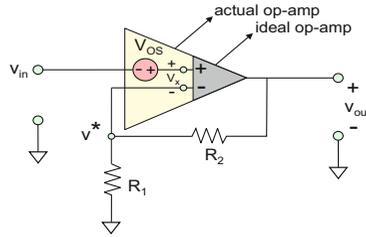

Fig. 5.24. Circuit for the non-inverting amplifier with an input offset voltage.
The input offset voltage results in a nonzero output voltage when the two input terminals of the amplifier are shorted out. It arises due to a small asymmetry in the input differential transistor stage inside the amplifier chip. It is fixed for a certain chip but varies from chip to chip. General-purpose amplifiers have the input offset voltage  $V_{\text{OS}}$  in the range of 1 mV – 6 mV. The offset can be modeled as a small DC source of strength,  $V_{\text{OS}}$ , in series with one of the input terminals to the amplifier as shown in Fig. 5.24. The input offset voltage produces a similar effect for any amplifier configuration, including the comparator where its effect becomes most dramatic. A large triangle in Fig. 5.24 indicates the actual amplifier chip, whereas the small triangle is the ideal amplifier without DC imperfections. The circuit in Fig. 5.24 is analyzed using the two summing-point constraints. Since the negative feedback is present,  $v_x$  must be zero, which yields
**Exercise 5.7:** The amplifier circuit in Fig. 5.24 has the closed-loop gain of  $A_{CL} = 100$  and an input offset voltage of  $V_{OS} = 5$  mV. What is the general expression for the output voltage?
In reality, for the op-amp to operate, there will be very small currents into the input terminals (into transistor bases), typically on the order of 100 nA. When those currents flow through the feedback resistances, they create corresponding voltages which appear as an output offset voltage as well. Let a current of 100 nA flow *into* the negative terminal of the amplifier in Fig. 5.24. If the input to the amplifier is grounded, this current must flow through resistance  $R_2$ . Therefore, it will create the extra output DC voltage of